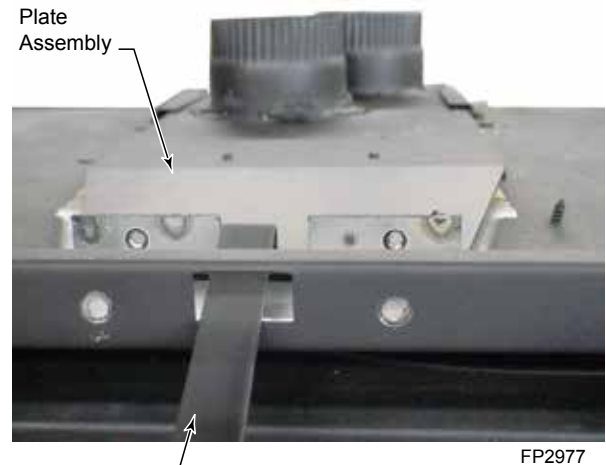

Figure 11
4. While sliding unit in place, if necessary the glass latch/shutoff tool can be used to help place the plate assembly. Using the small end of the tool, insert it in the square notch in top front of firebox. Hook the plate assembly with tool and pull forward into place while sliding firebox to the rear. *Figure 11*
The glass frame removal tool shown on Page 13, Figure 11 can also be used to turn off the gas supply to the unit's gas valve. *Figure 18*